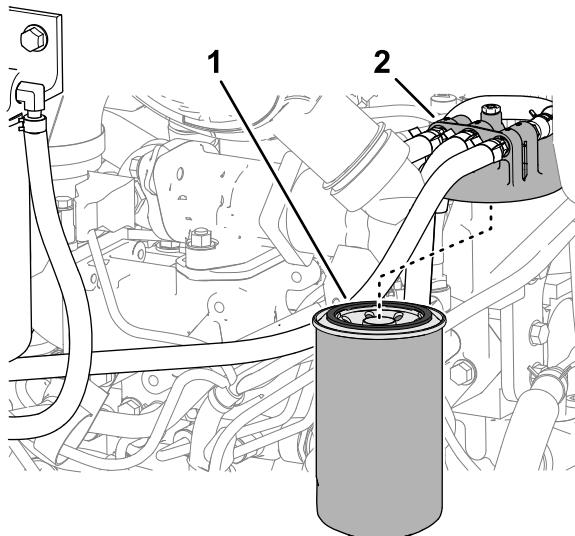

Figure 119
3. Clean the area around the fuel-filter head (Figure 119).
3. Remove the filter and clean the filter-head mounting surface (Figure 119).